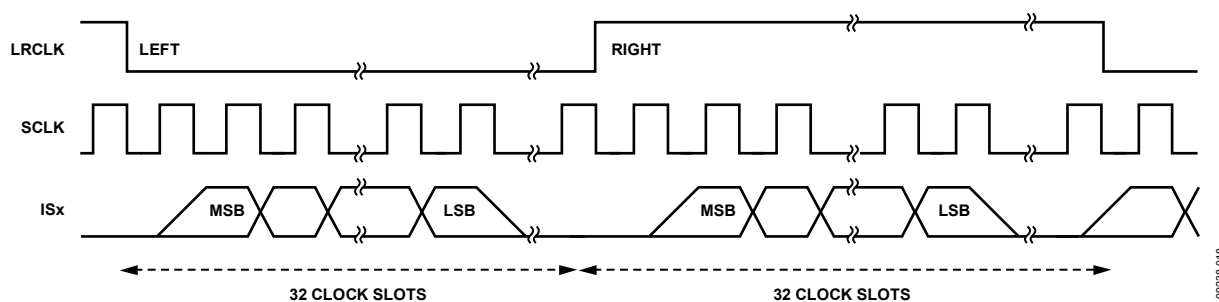
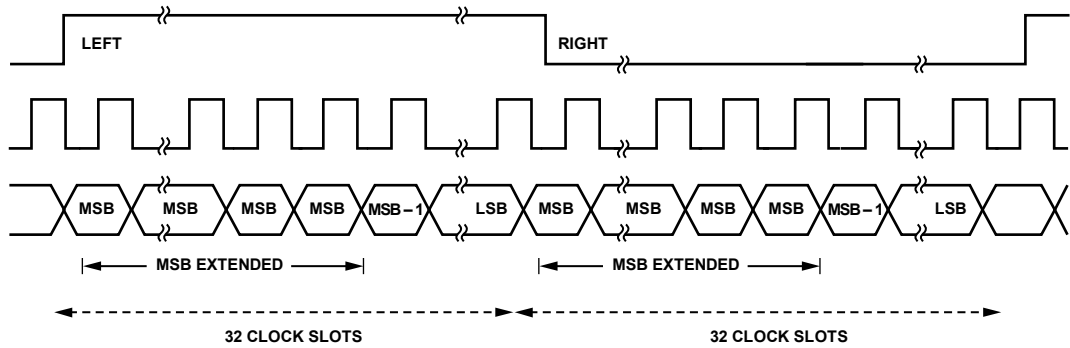
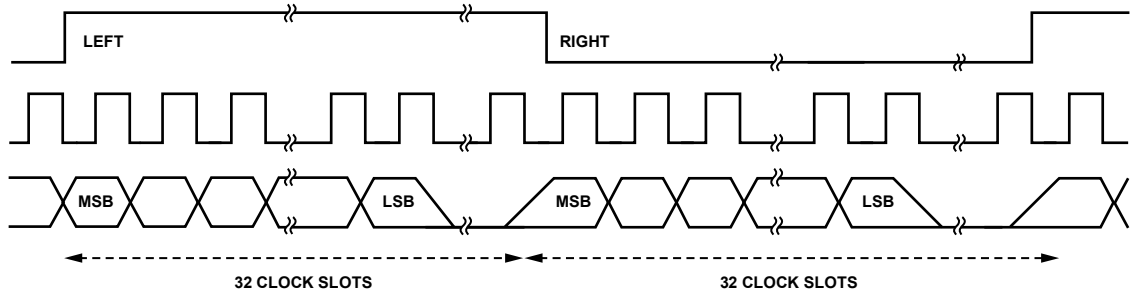

Figure 14. Timing Audio Data Output in I²S Mode
Figure 15. Timing Audio Data Output in Right Justified Mode
Figure 16. Timing Audio Data Output in Left Justified Mode
- L-PCM audio data is output on the audio output pins if the part received audio sample packets with L-PCM encoded audio data. AP audio output pin can carry only stereo mode in L-PCM, which can be output in I²S, right justified, or left justified mode (refer to Figure 14, Figure 15, and Figure 16). The I2SOUTMODE[1:0] control must be set to 0x0, 0x01 or 0x2 to output I²S, right justified, and left justified respectively on the audio output pins. The ADV7611 can output multichannel control data in I²S TDM mode and I2S_TDM_MODE_ENABLE must be set. In TDM mode, a stream carries multiplexed I²S channels. TDM mode is supported for audio streams up to 48 kHz audio sampling frequency.
- I2SOUTMODE must be set to 0x0, 0x01, or 0x2 for I²S, right justified, and left justified format, respectively (refer to Figure 14, Figure 15, and Figure 16)